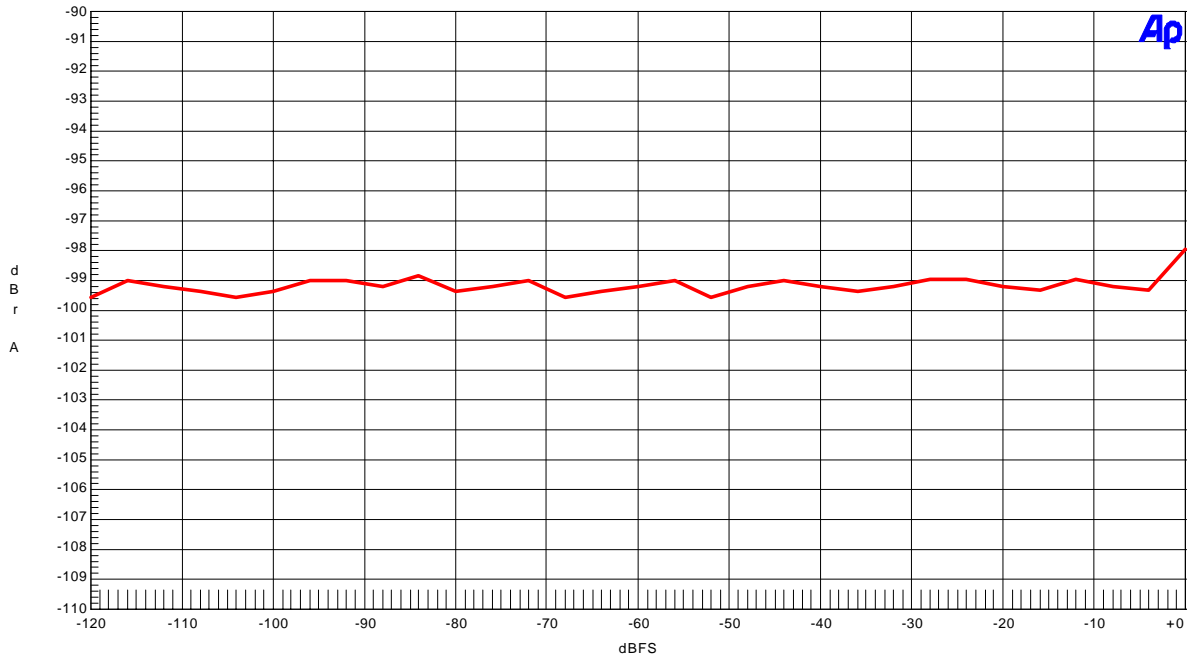

Figure 1-1. THD+N vs. Input level
- Figure 1-1. THD+N vs. Input level